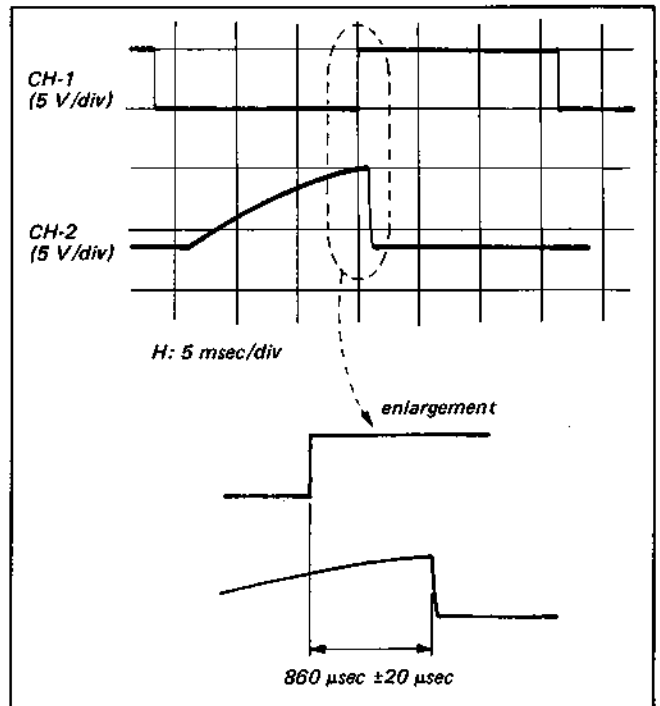

Fig. 5-18. Tracking center adjustment
- (1) Set the TRACKING knob to the center click position.
- (2) Adjust to 860 μ sec \pm 20 μ sec with RV512. (See Fig. 5-18)